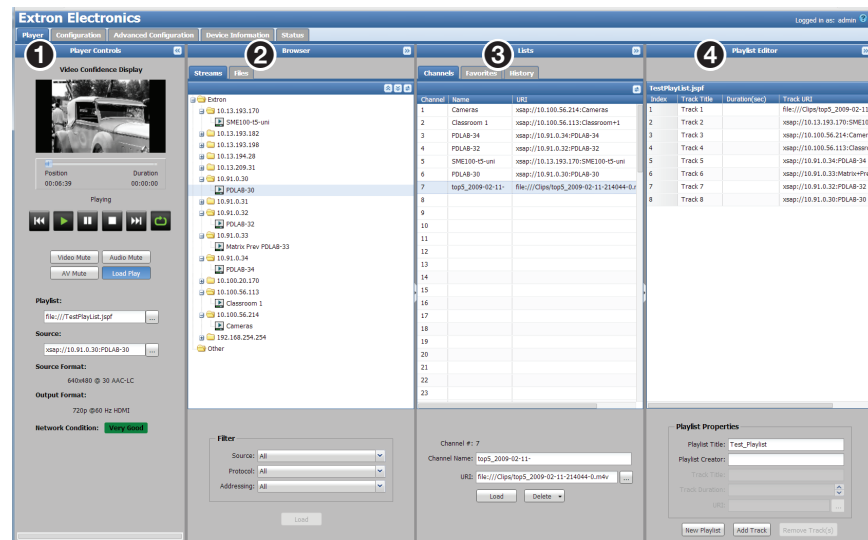

Figure 22. Player Page, Playlist Editor
By default, the **Player** page opens with the **Playlist Editor** open (see figure 22).
Playlists are stored in local media and are found using the files tab of the browser. Select a playlist on the **Files** tab of the **Browser** panel (see figure 22, ②). The playlist opens in the **Playlist Editor** panel for viewing or editing. The name of the currently selected playlist is on the title bar at the top of the **Playlist Editor** panel (④).